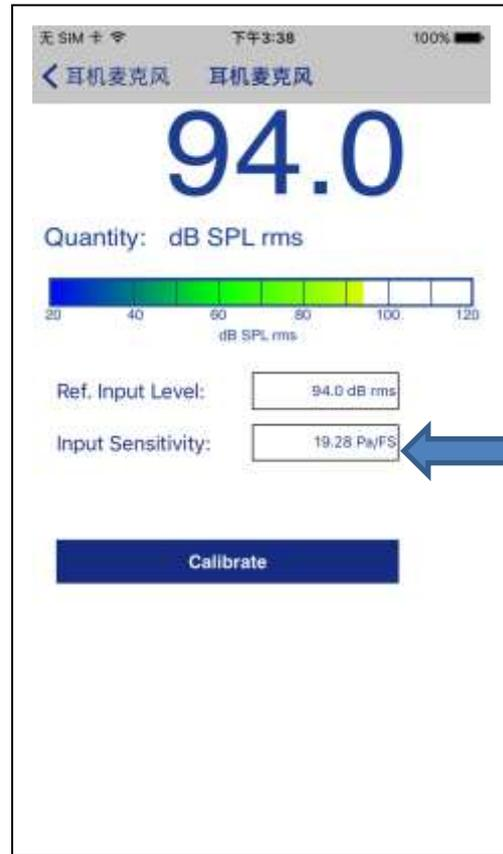

Fig. 9 Type the Input Sensitivity into the APP.
- 3) Input 19.28(Pa/FS) into the APP as shown in Fig.9.